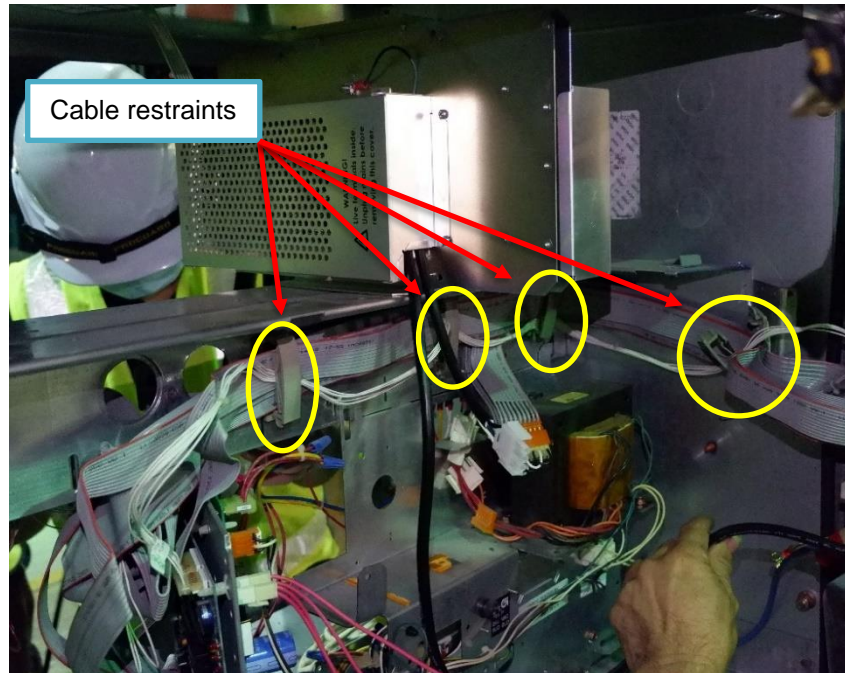

Fig 4.20a – Encore 300 or 500
17. With the RP00013-XX or RP00043-XX Retro-Fit Kit Door assembly fully opened, manage the excess cabling into the electronics cavity so that the majority of the cables' slack will be fastened to the inside of the dispenser's main door. Re-use any existing cable restraints that may be present. It may be necessary to use cable-tie or additional cable restraints to secure the loose wiring. These must be provided by the installer. (Fig 4.20a, b)